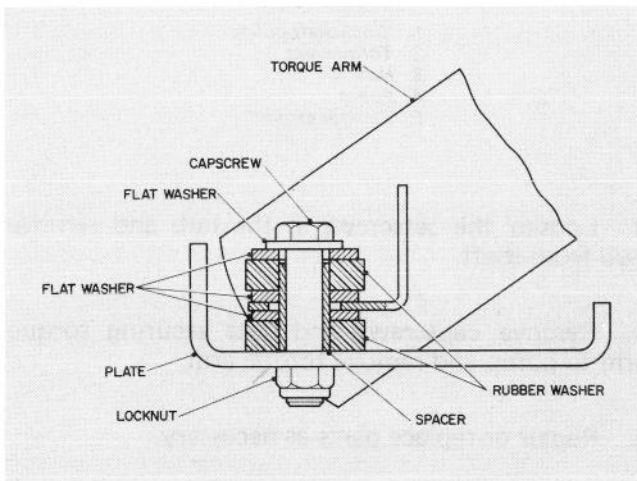

Figure 102
8. Secure the end of the torque arm to the torque arm plate. Refer to Fig. 102 for proper assembly of parts.